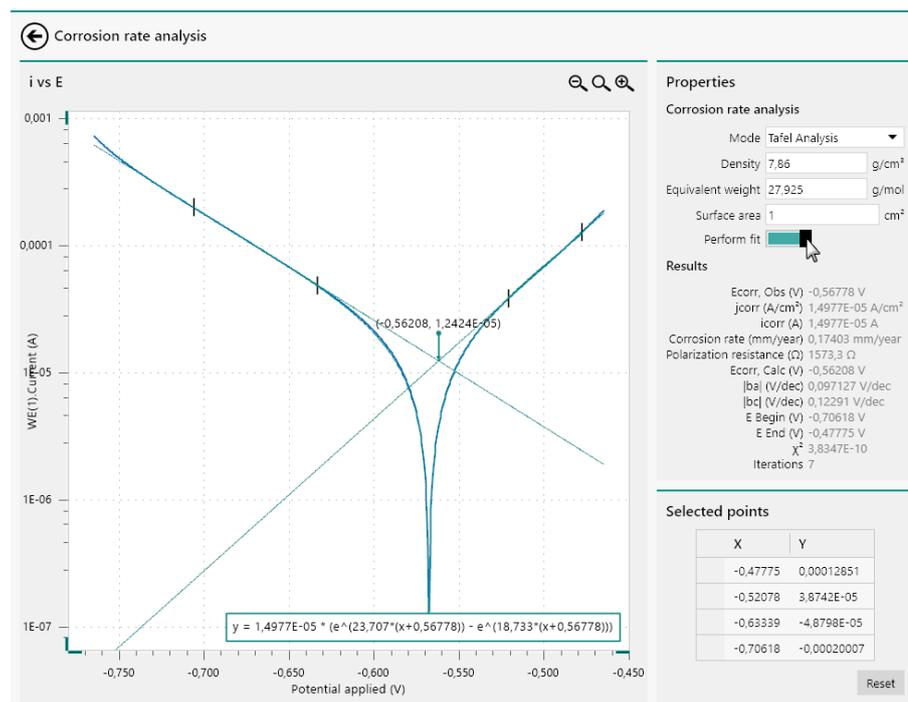

Figure 981 The measured data is fitted with the Butler-Volmer equation
2. **Perform fit on:** the intercept will be used as a starting point for the fitting of the data using the Butler-Volmer equation. The complete curve will be fitted using this equation and the corrosion data will be determined by the results of the fit. This leads to a more accurate determination of the corrosion date, as shown in Figure 981.